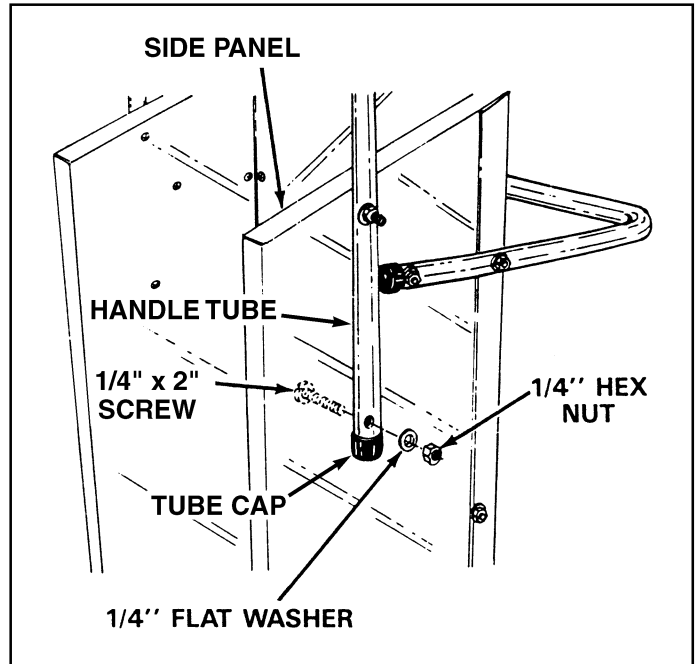

FIGURE 11
18. Place tube caps on the handle tube, then place it over the side panels and line up the four holes. Assemble four 1/4" x 2" screws through the side panels and handle. Secure with flat washers and hex nuts. See figure 11.